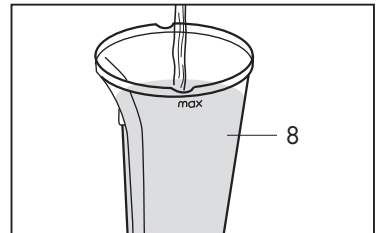

Fig. 2
- Fill the tank until the indicated maximum level is reached (MAX). **(Fig.2)**